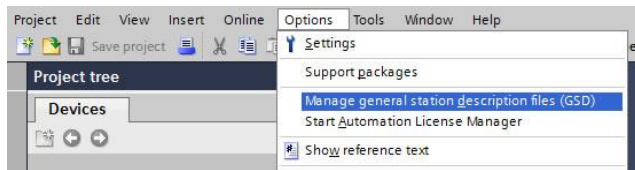

Figure 63: Install GSD File Menu Option
1. Open the TIA Portal project. Navigate to **Options...Manage general station description files (GSD)** as shown in Figure 63.